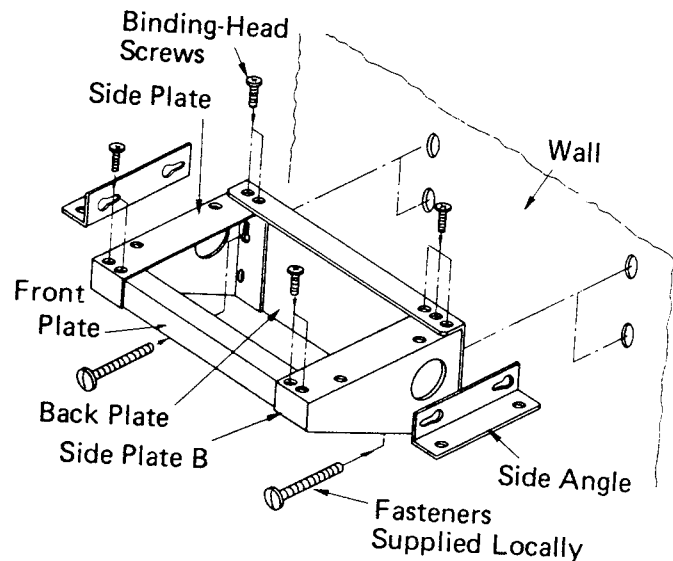

FIGURE 5—ASSEMBLED
- a) Attach the two side plates (A & B) to the back plate using four of the binding-head screws supplied with the kit (Figure 5). Note that three holes are provided on the right side of the back plate. Use the inner two holes for STRATA XII and the outer two for STRATA XX. (When arranged for STRATA XX mounting, the side plate will extend beyond the